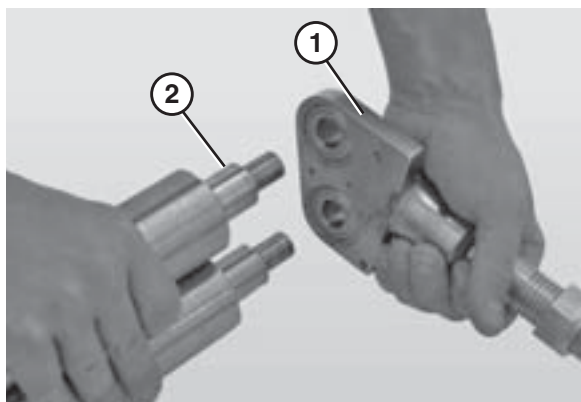

Figure 90
6. Slide the nose bar shafts (Figure 90, item 1) off the nose bar spindles (Figure 90, item 2).